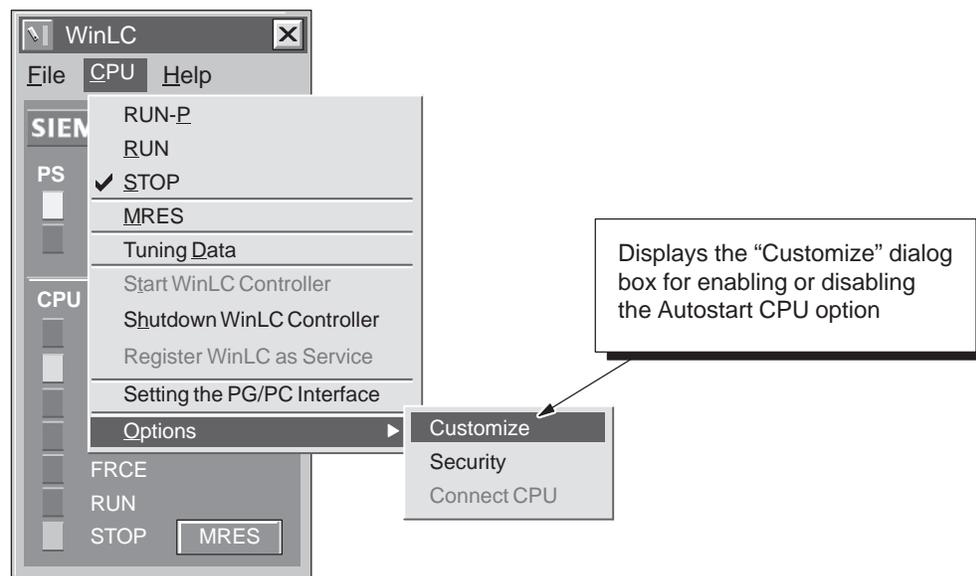

Figure 4-15 Accessing the “Customize” Dialog Box
1. As shown in Figure 4-15, select the **CPU ► Options ► Customize** menu command to display the “Customize” dialog box.